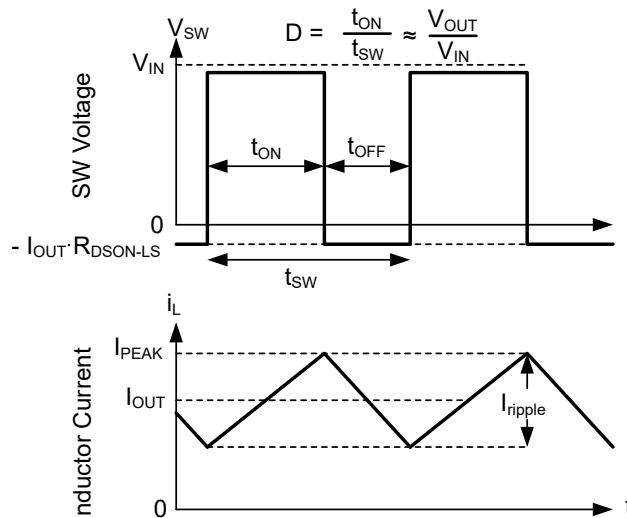

Figure 8-16. SW Voltage and Inductor Current Waveforms in Continuous Conduction Mode (CCM)
The following operating description of the device refers to Section 8.2 and to the waveforms in Figure 8-16. In CCM, the device supplies a regulated output voltage by turning on the internal high-side (HS) and low-side (LS) switches with varying duty cycle (D). During the HS switch on time, the SW pin voltage,  $V_{SW}$ , swings up to approximately  $V_{IN}$ , and the inductor current,  $i_L$ , increases with a linear slope. The HS switch is turned off by the control logic. During the HS switch off time,  $t_{OFF}$ , the LS switch is turned on. Inductor current discharges through the LS switch, which forces the  $V_{SW}$  to swing below ground by the voltage drop across the LS switch. The converter loop adjusts the duty cycle to maintain a constant output voltage. D is defined by the on time of the HS switch over the switching period: